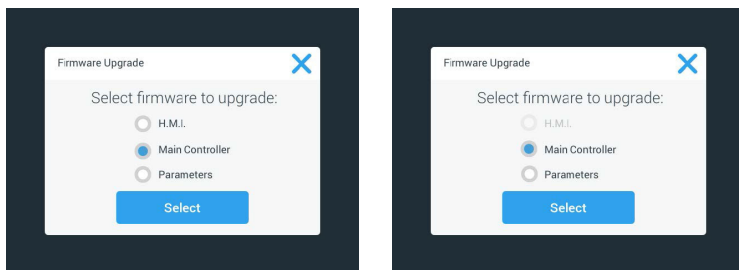

Figure 115: Select Firmware Item to Install
11. If there is firmware to upgrade, the itemized list shown in Figure 115 appears in the Firmware Upgrade screen. Tap on the firmware item you wish to upgrade.
NOTICE If you select the H.M.I. option from the list shown in Figure 115 to upgrade the GUI firmware only, the GUI display will not respond to any further tapping on the touchscreen's active area for up to one minute after you have started the firmware upgrade. Please do not power off the shaker during this period, otherwise the upgrade will not be completed successfully. The shaker will restart after a short time and then be ready for use again.
NOTICE In the event that you select two or three options from the list shown in Figure 115 to upgrade multiple firmware components in one go, the shaker must not be powered off at any time during the entire upgrade process.